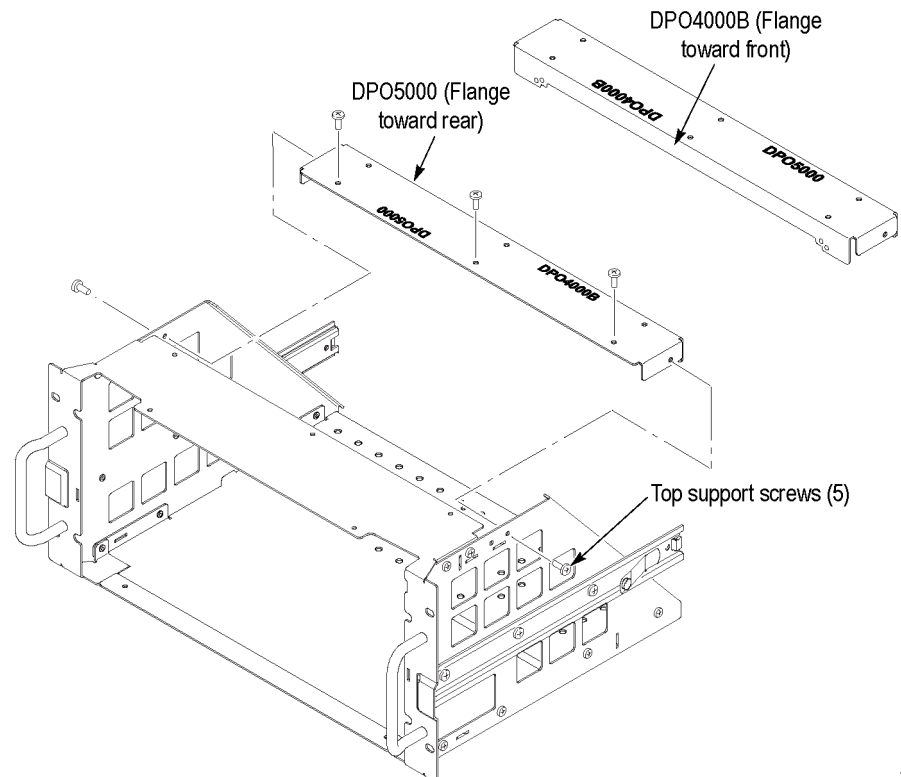

Figure 8: Installing the top support plate
4. Install the top support plate; note the orientation for the different instruments: (See Figure 8.)